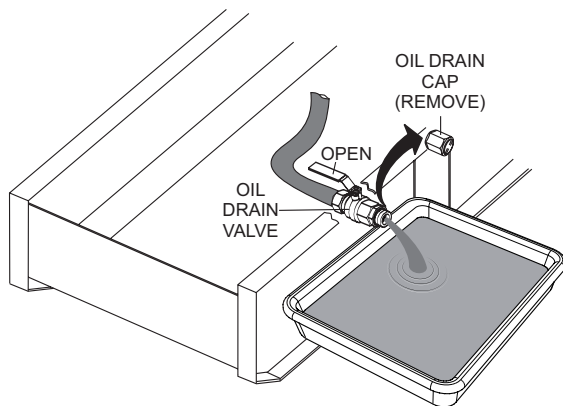

Figure 68. Draining Engine Oil
- Next, remove **oil drain cap** (Figure 68)